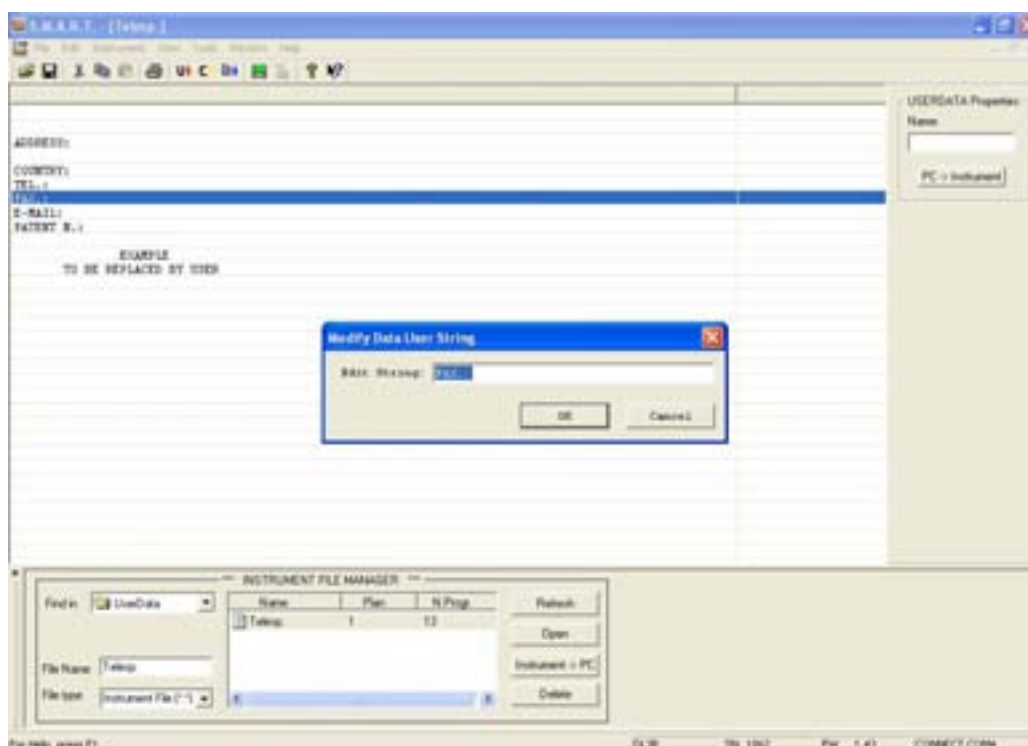

Figure 6.1
- f) Click twice on the name to open the file (fig. 6.1)
- a) Once the file opens (Fig. 6.1) you can write by clicking twice on the line required,
- b) On the right-hand side of the window, shown in Fig. 6.1, name the file in the USERdata Properties sections.
- c) Click on the "PC-Instrument" (Fig. 6.1) key in the USERdata properties section (to the right of the window) to transfer the data to your meter.